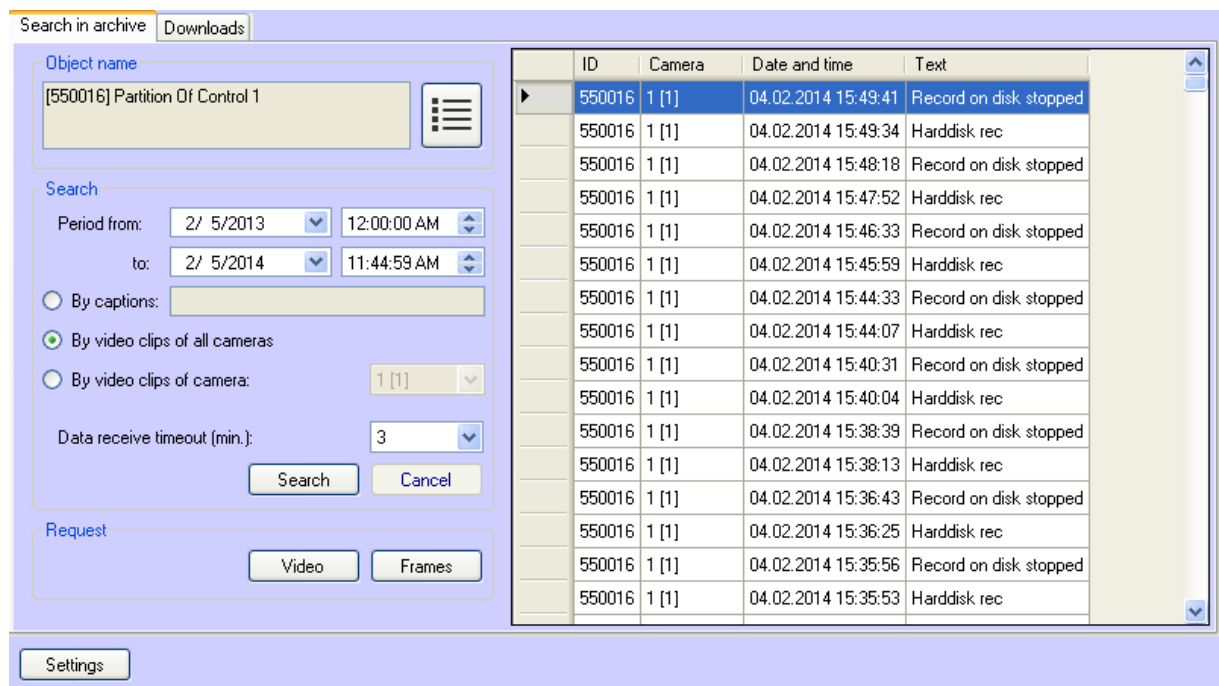

Fig. 4.3—2 Search by clips result
4. Click **Search**. If the search completes successfully, the search result is displayed as a list of lines (Fig. 4.3—2). The number of lines in that list is limited to 500.